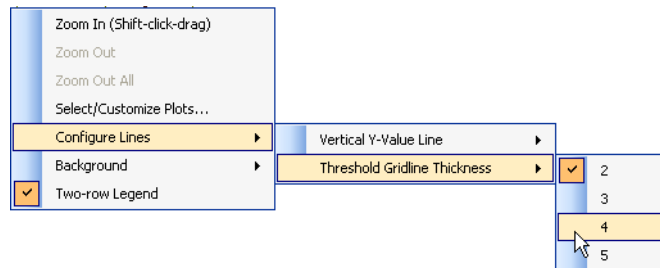

Figure 110 Setting the Thickness of the Threshold Gridlines
- ▶ You can set the thickness of the threshold gridlines as shown in Figure 110.